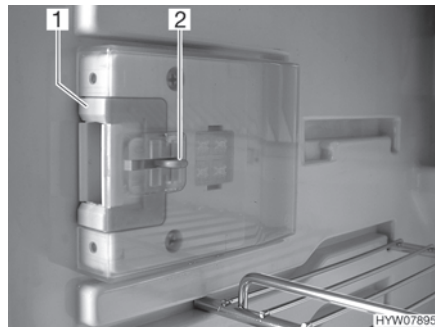
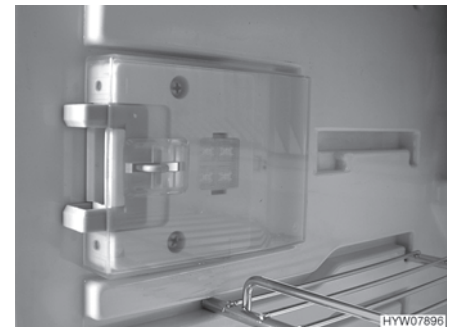

Fig. 161 Locking device (normal position)
Fig. 162 Locking device (ventilation position)
- Press down the unlocking device (Fig. 161,2).
- Push locking device (Fig. 161,1) forwards (Fig. 162).